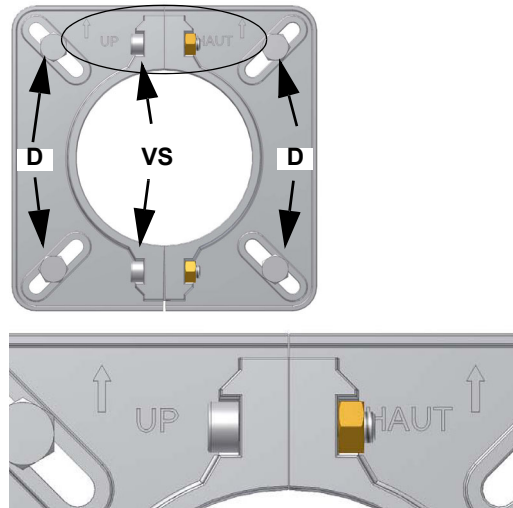

Fig. 2
- 4 according to the reference showed on Fig. 2, fix the flange to the boiler's stud bolts **D**, without completely fastening;